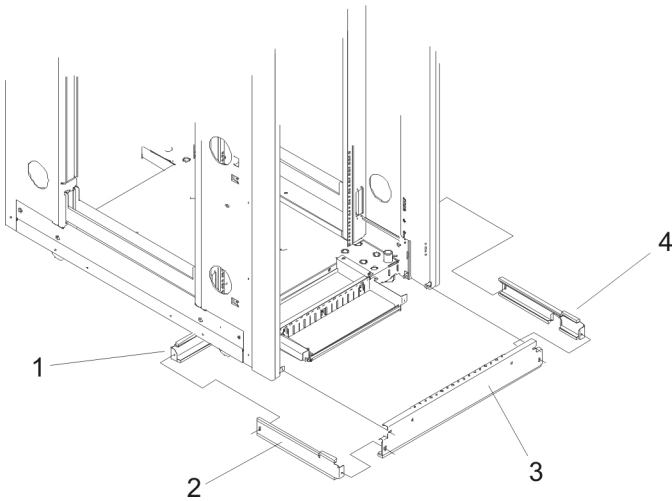

Figure 31. EMC skirt for p5-575 server frames
1. At the front bottom of frame, install the rear skirt by sliding it into place under the frame. (refer to 1 in Figure 31)
2. Attach left side skirt to rear skirt using (m5 X 16) screw (refer to 2 in Figure 31)
3. Attach right side skirt to rear skirt using (m5 X 16) screw (refer to 4 in Figure 31)
4. Attach front skirt (top hole) to bottom of frame using two (m5 X 16) screws (refer to 3 in Figure 31)
5. Attach front skirt (bottom hole) to left and right side skirts using (m5 X 16) screws (refer to 2, 3, and 4 in Figure 31)